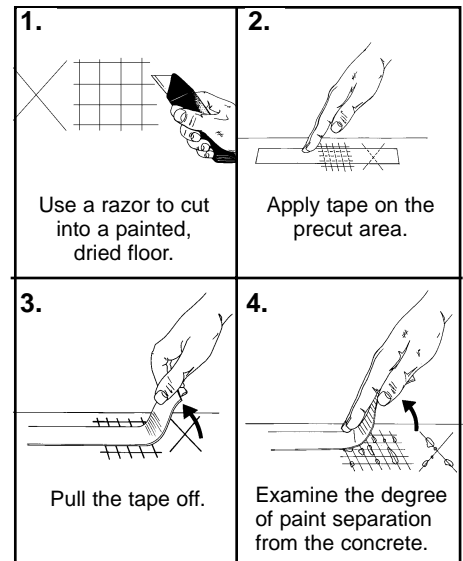

Figure 5. Adhesion test on the painted floor.
2. Combine separate cans of paint into one container to ensure uniform colour distribution. It is recommended that a test area be coated to ensure that the adhesion and electrical performance of the paint is acceptable. (See Adhesion Testing, Figure 5.) If the test areas show inadequate adhesion, use an industrial floor primer/sealer.